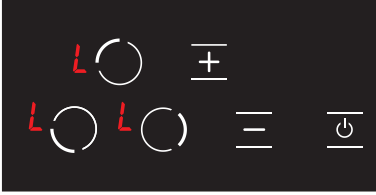

Figure 24
1. The **L** icon is displayed on all displays when the stove is on and the child lock is active. (see Fig. 24) The **L** and **H** icons are displayed alternatively if any hob is hot. You may turn the stove on or off with the  key only.